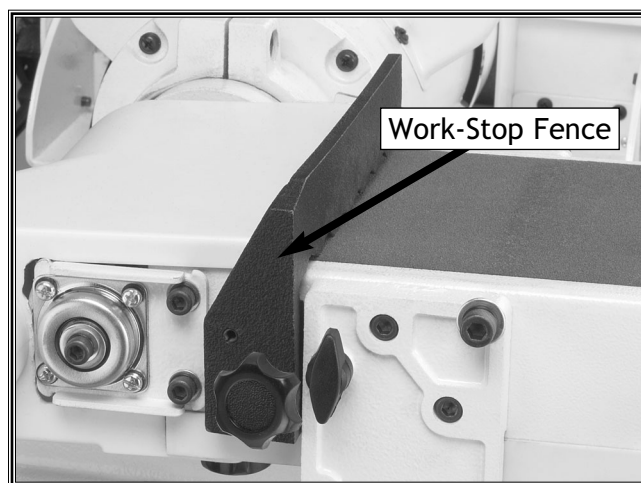

Figure 21. Flat sanding operation.
5. Install the work-stop fence (shown in **Figure 21**) to prevent the workpiece from running off the end of the sander.